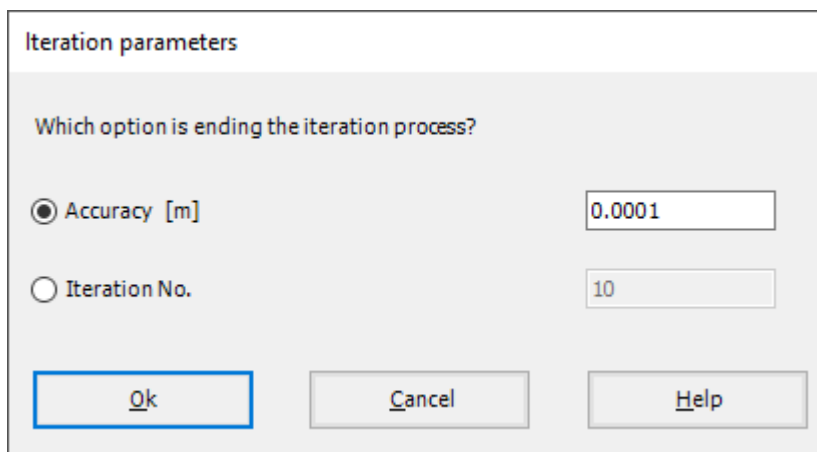

Figure 8.19 "Iteration parameters" option box
- Choose "Computation of all" command from "Solver" Tab Window. The following "Iteration parameters" option box in Figure 8.19 appears